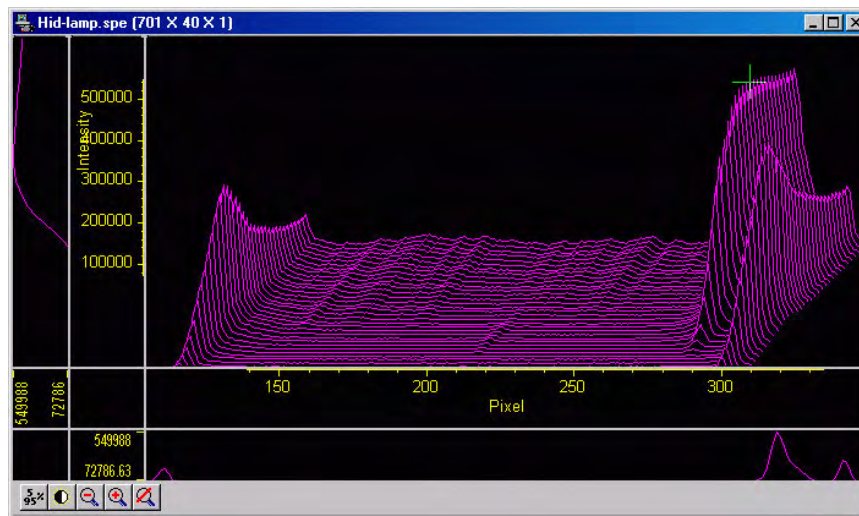

Figure 66. *Hide-lamp.spe* 3D Graph expanded to show Defined Region
- Click on  (Zoom In). The view will change so that only the selected region is displayed as shown in Figure 66.